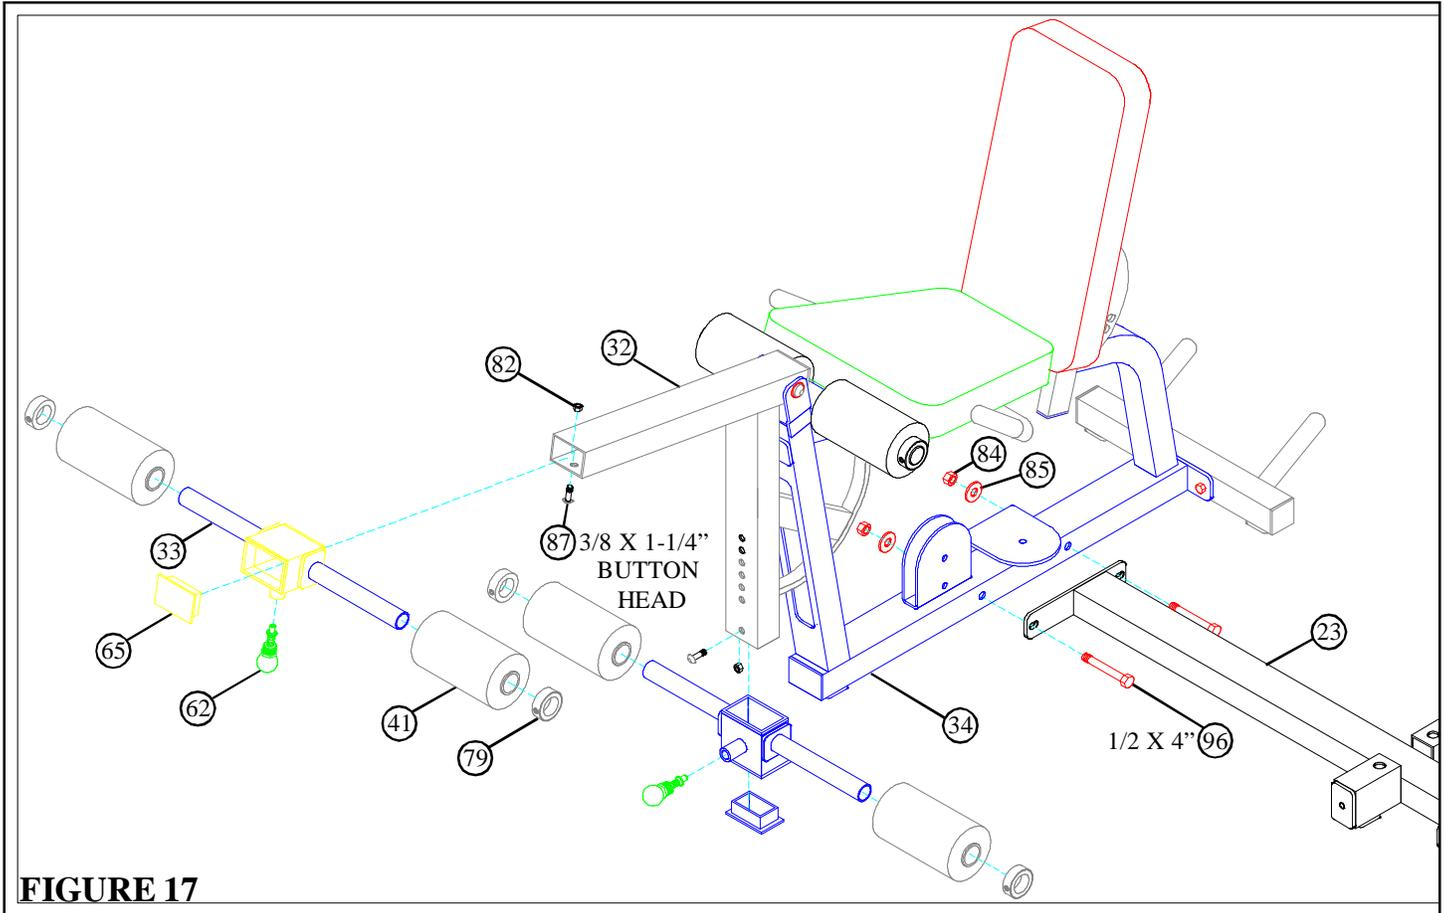

FIGURE 17
- **SECURELY** assemble two 3/8 X 2-3/4" SPRING PINS (62) to the PAD SLEEVES (33) as shown in FIGURE 17.
- Slide PAD SLEEVES (33) over LEG CURL/EXTENSION (32) until the spring pin pops into the holes. (**NOTE: PAD SLEEVES should be facing as shown in FIGURE 17.**)
- **SECURELY** assemble two 3/8 X 1" BUTTON HEAD CAP SCREWS (87) and two 3/8" LOCK NUTS (82) to the last holes in the LEG CURL/EXTENSION (32) as shown in FIGURE 17.
- Insert two 3 X 2" END CAPS (65) into the ends of the LEG CURL/EXTENSION (32) as shown in FIGURE 17.
- **SECURELY** assemble LEG FRAME (34) to the LEG WEIGHT STACK BASE (23) using two 1/2 X 4" BOLTS (96), two 1/2" WASHERS (84), and two 1/2" LOCK NUTS (85). See FIGURE 17.